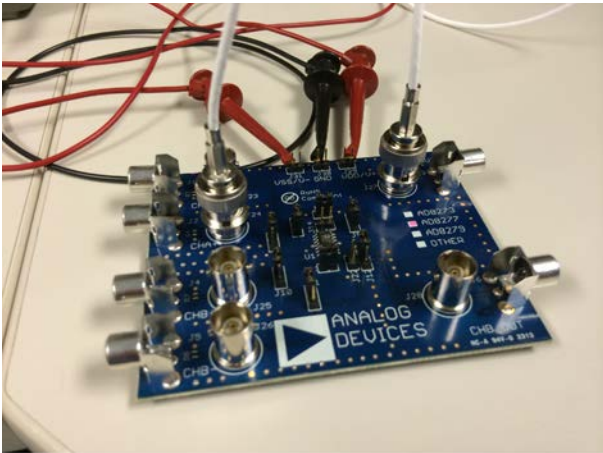

Figure 5. Completed Connections for Quick Start Usage
3. Lastly, connect a BNC to BNC cable to the oscilloscope and Connector J27. This step completes the connections for using Channel 1 of the AD8273/AD8277/AD8279 (see Figure 5).